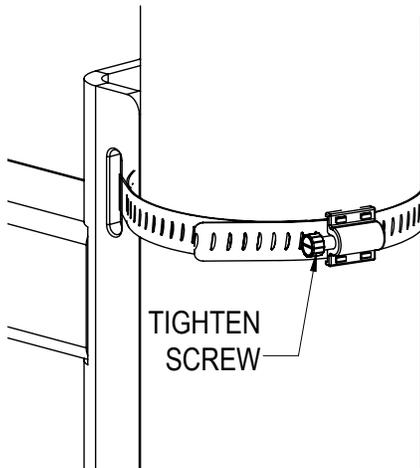

Figure 3
Step 3: Position the location of the PM-MOUNT-6DOWN on the pole and then fully tighten screw using screw driver or a wrench to desired tension and complete the banding operation. Recommended torque is 30-40 in/lb (*Figure 3*).